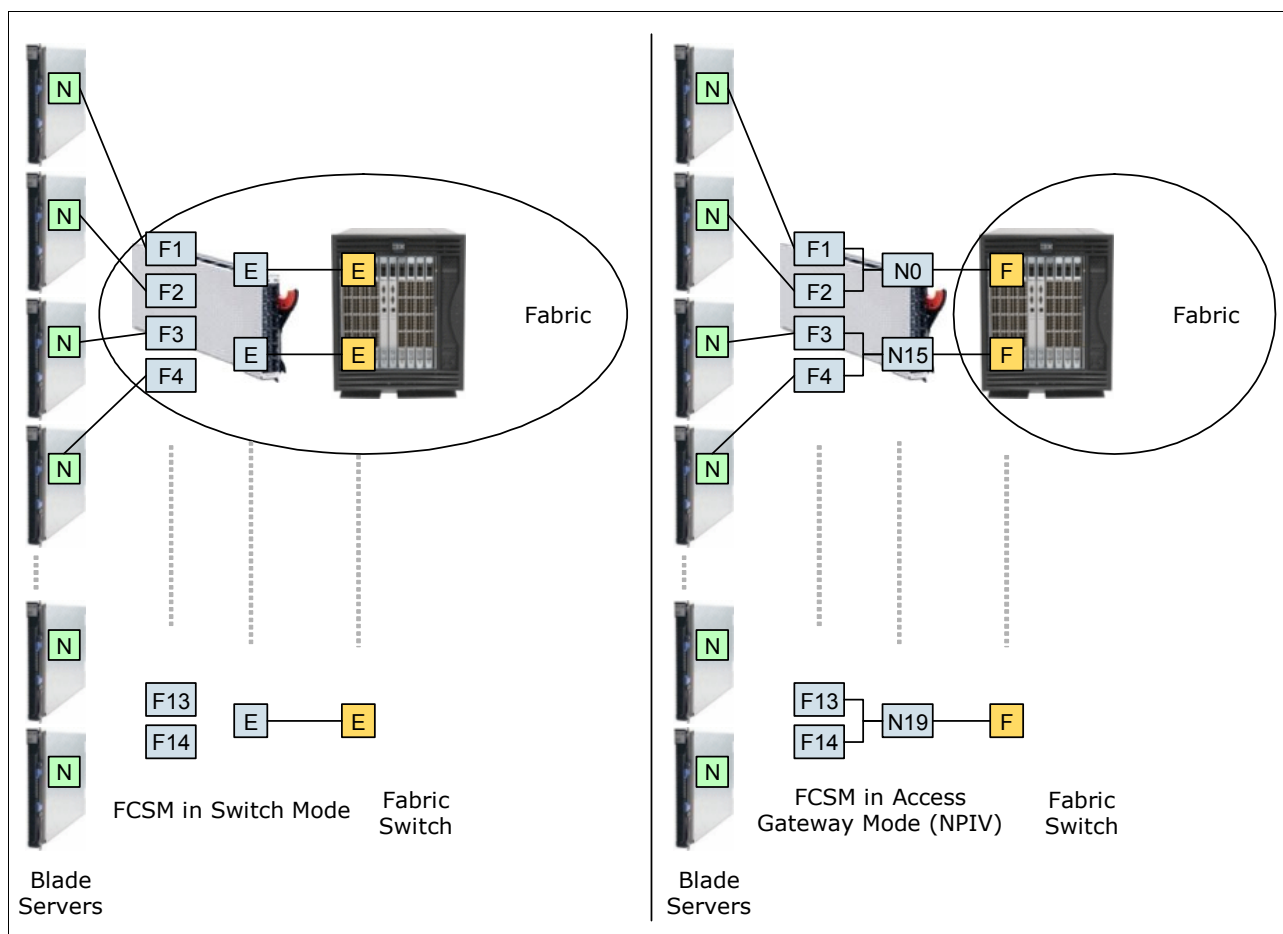

Figure 2-8 Brocade Access Gateway with NPIV technology
- ▶ In a switch or gateway device on the edge of an FC fabric. NPIV technology is used to allow the gateway device to appear as a switch (F\_Port) to connecting servers. This technology is also used to allow the gateway device to appear as a node (N\_Port) to the edge FC switch to which it connects, acting as *concentrator* for multiple N\_Port devices (servers). The gateway device allows attachment of multiple N\_Ports but does not use a domain in the FC fabric (see Figure 2-8).
For more information about NPIV, see *Implementing the Brocade Access Gateway for IBM BladeCenter*, REDP-4343. Figure 2-8 illustrates the NPIV concept from this IBM Redpaper™ publication.